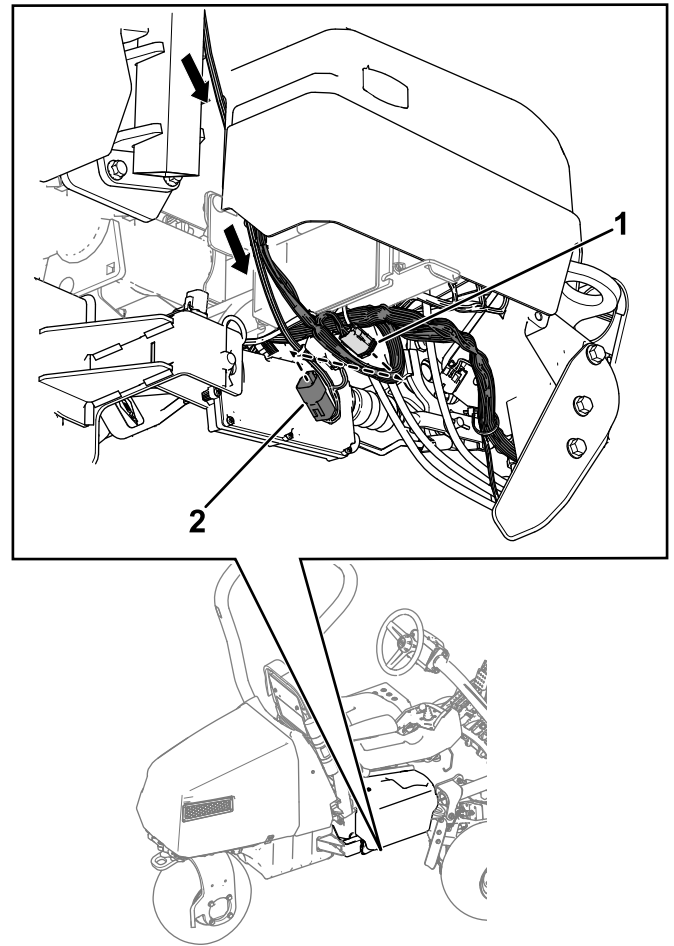

Figure 14
4. Route the wire harness down the roll bar and connect the wire-harness connector labeled P01 to the connector on the machine wire harness labeled P71 (Figure 14).